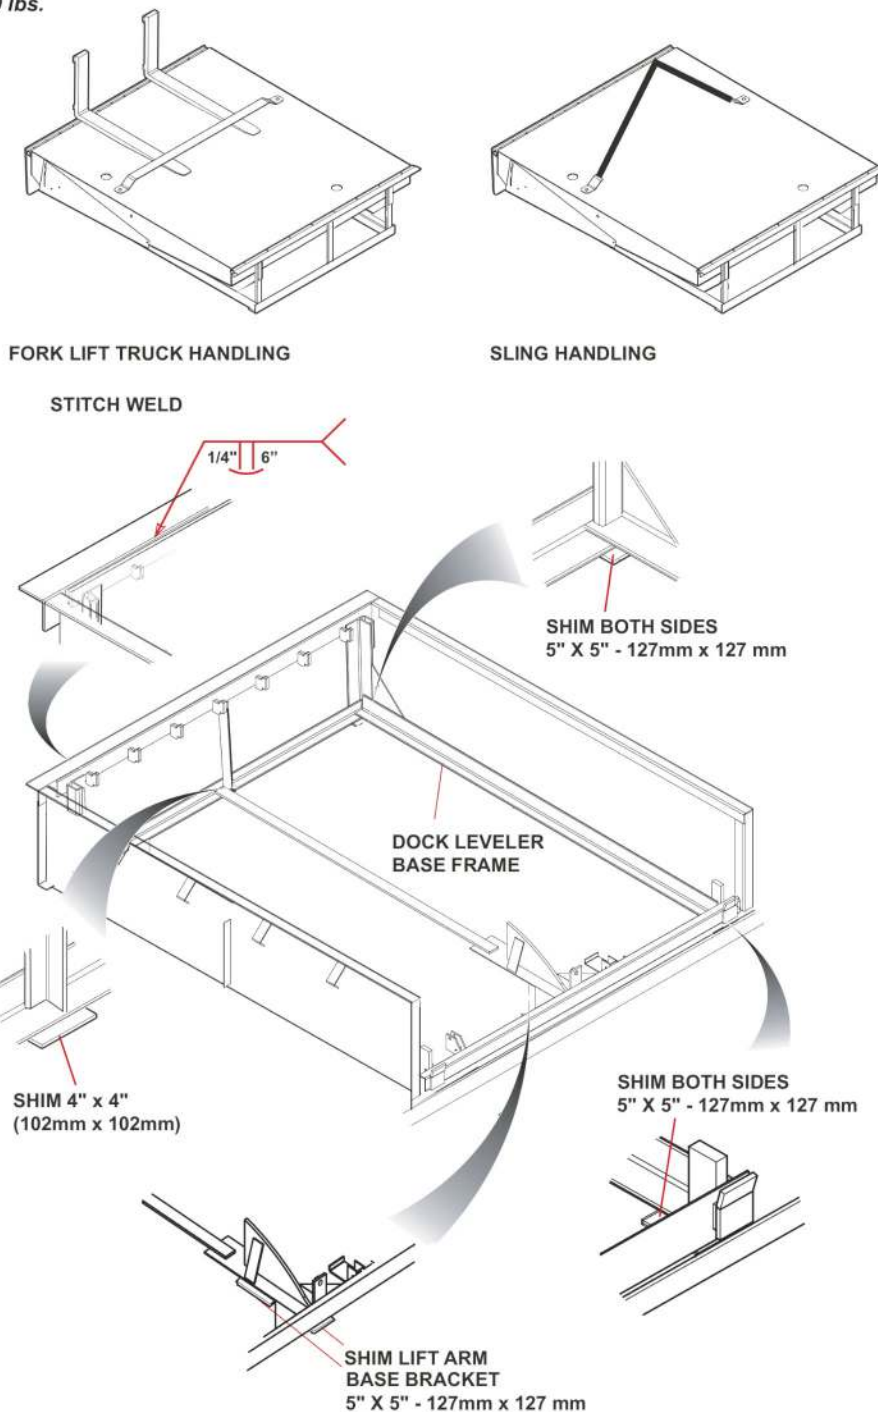

Figure 1 : Dock Leveler Installation Pictorial
6. If rear beam does not line up squarely with rear curb angle, use 3" x 6" (75mm x 150mm) shims of suitable thickness to fully support top rear and bottom rear of rear beam at weld areas. Weld rear beam to curb steel with 1/4" x 6" (6mm x 150mm) welds, on 9-5/8" (250mm) centers. See Figure 1, Page 2.
It is important that these shims fill space between bottom edge of back beam and face of curb angle as well as top edge, behind each hinge lug. Assume the top of the back beam is flush with the top surface of rear curb angle and finish weld back beam to curb angle as detailed in Figure 1, Page 2.
19. Tack-weld the welded rear shims to the rear Dock Leveler frame. Finish weld all shims, Refer to Figure 1 : Dock Leveler Installation Pictorial.